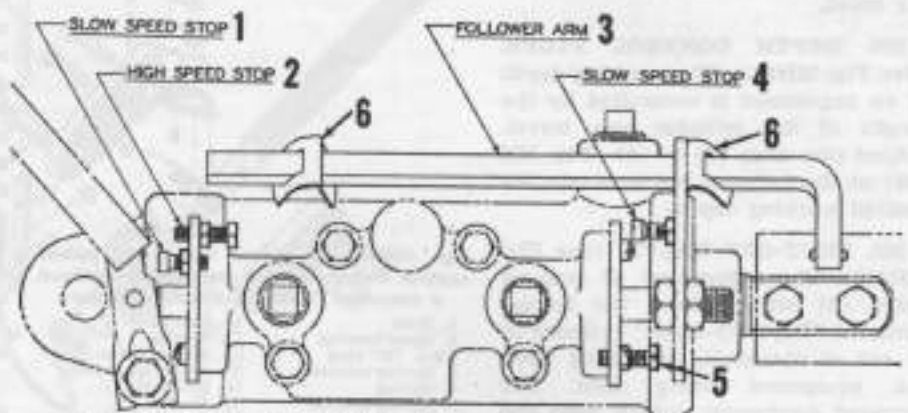

Fig. MH461—"Depth-O-Matic" cylinder, showing points of adjustment.
354. **FOLLOWER ARM.** (See Fig. MH461). Straighten follower arm (3), if necessary, so that the arm remains parallel with the cylinder throughout its full range of travel.
357. HIGH SPEED STOP. (See Fig. MH461). The high speed stops (2 & 5) are located at each end of the valve body. These stops control the length of movement of the control lever and control valve. Normal factory adjustment of the high speed stops provide full stroke of the ram in 3 to 4 seconds. The screws can be adjusted to give faster or slower action if desired.
358. SLOW SPEED STOPS. (See Fig. MH461). The valve should normally be operated in the high speed position; however, slow speed stops are provided to facilitate operation in some cases. The slow speed stops are controlled the same as the high speed stops as follows:
359. DEPTH CONTROL STOPS. (See Fig. MH461). The working depth of an implement is controlled by the length of the cylinder ram travel. Adjust stop clips (6) or (53—Fig. MH 464) on the follower rod to obtain the desired working depth.